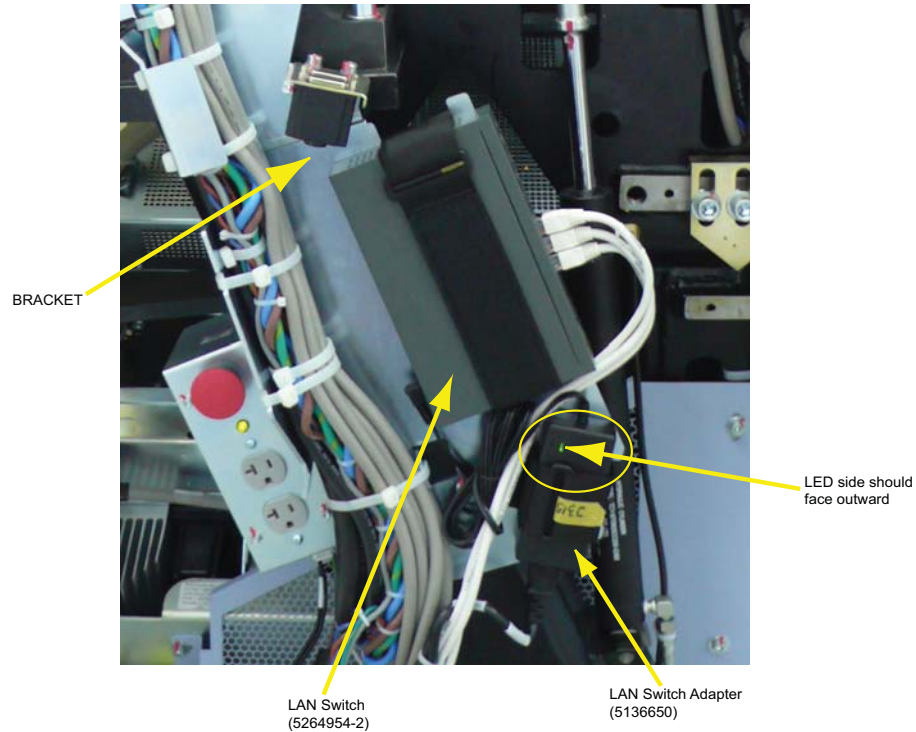

Figure 2-2 LAN Switch Assembly
- 4.) Press LAN switch on Bracket and use Velcro tape (2315482-3) to fix it. Please refer to Figure 2-2.
Fix the adapter (5136650) using Velcro tape (2315482) to the bracket. Please refer to Figure 2-2.